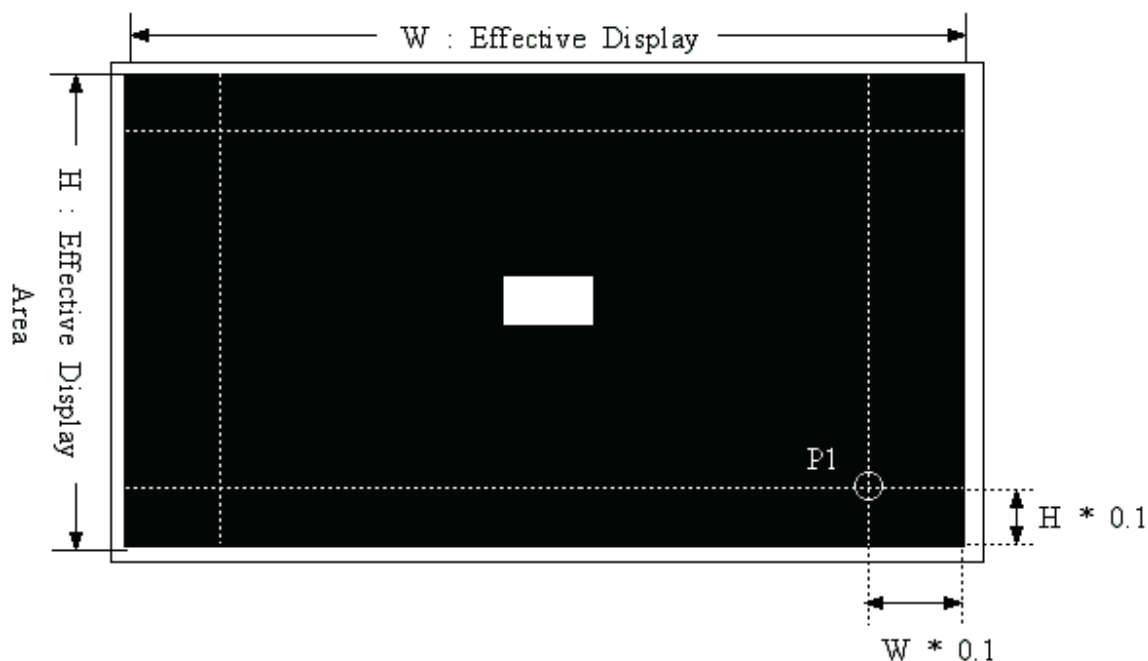

Figure-4. Measurement point
- * 2. Contrast Ratio is calculated from the display Luminance and the non-display Luminance value. Display condition is shown in Figure-4.
1. For mass production test purposes, it is recommended to measure just 1 point, P1 of Figure.-4 on display pattern of Fig.-3.
(5) Ambient Light : Dark Room (<2 lux)